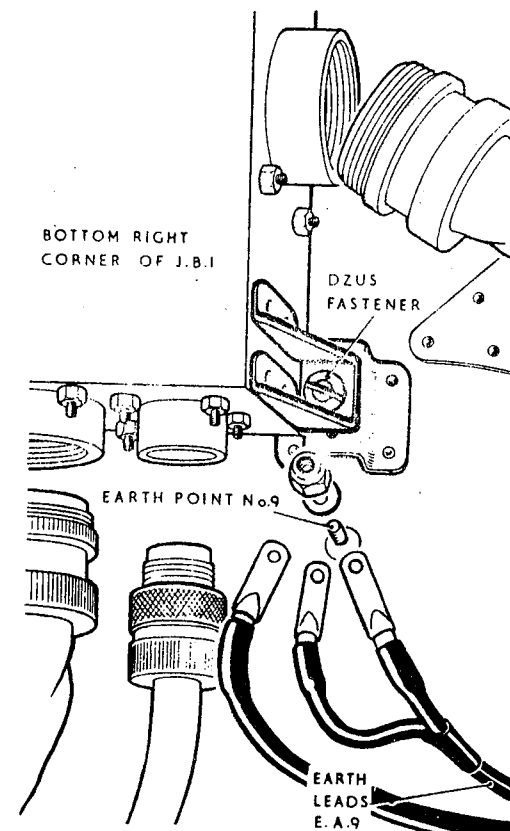

Fig.1 J.B.1 lower attachments and earth point 9
- (1) Render the aircraft electrically safe, as described in Group A.1.
- (2) Open the engine starter access door.
- (3) Disconnect the earth lead EA9 from earth point 9 located adjacent to the lower right hand corner of J.B.1. (fig.1).
- (4) Disconnect all the plugs and sockets on the cable assemblies at J.B.1.
- (5) Release the two Dzus fasteners at the lower corners of the box (fig.1) and lift the box upwards to disengage the two top mountings.
- (6) Lower the box and remove it from the aircraft, complete with earth lead EA9.